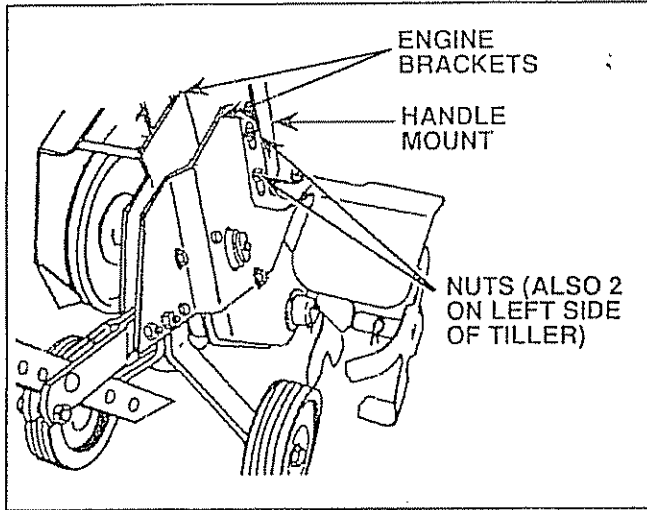

FIGURE 19
- If a lower Handle Height is desired, use ratchet with 1/2" socket and extension to loosen the four Bolts in the Handle Mount and Engine Brackets (Fig. 19).